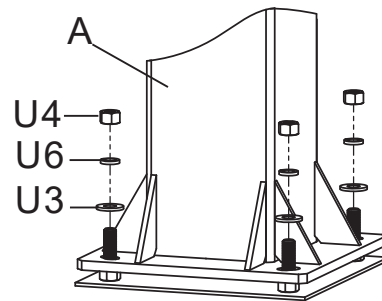

FIGURE 1B
- B. Remove the Padding from Main Post (A). Place the Main Post (A) over the J-Bolts. Slide a 16mm Thick Washer(U3), a Lock washer M16 (U6) and thread a 16mm Hex Nut (U4) to each J-bolt. Tighten the Nuts only a few turns onto the J-Bolts as shown in FIGURE 1B.
- C. If the Main Post (A) is not exactly vertical, adjust the 16mm J-Bolt Hex Nuts(U4) located under the Post base. Tighten all of the Hex Nuts(U4) Above Post base when Main Post(A) is vertical.